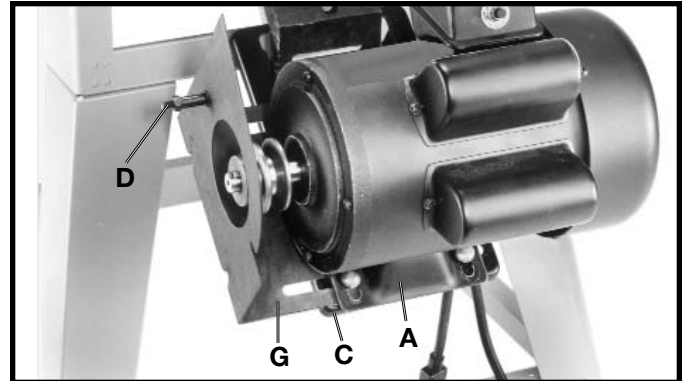

Fig. 22
3. Slide the belt and pulley guard bracket (G) Fig. 22, between the motor plate (A) and motor mounting plate (C), as shown.
4. Place a 1/4" external tooth lockwasher onto a 1/4-20x1-1/2" hex head screw. Insert the screw (D) Fig. 22, through the hole in the belt and pulley guard bracket (G) as shown in Fig. 22.